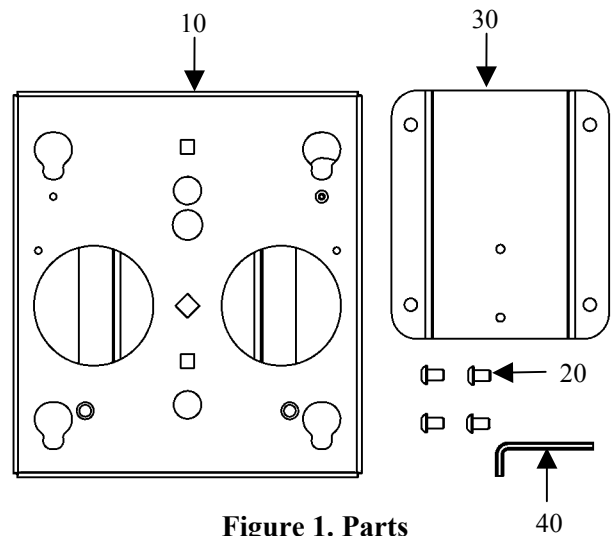

Figure 1. Parts
Unpack the shipping carton and check for the contents listed in Table 1 and shown in Figure 1.
2. Lay out components to ensure you have all the required parts before proceeding (see Figure 1). If you are missing any of the listed parts, contact Customer Service at: 1-800/582-6480.